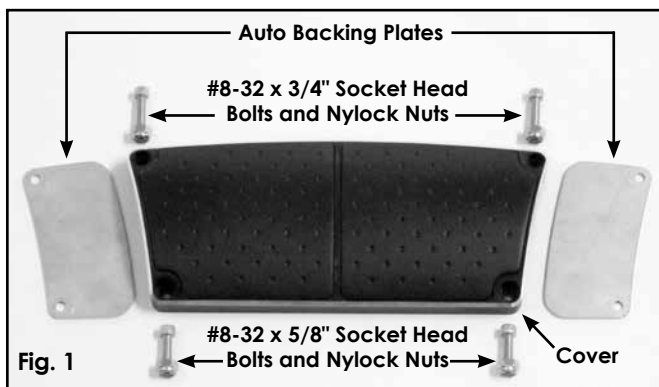

Fig. 1
Refer to Figs. 1, 2, and 3 for the component names.
**Step 3, Automatic Transmission Brake Pedal (Fig. 1):** Place one of the Auto Backing Plates on each side of the back of the pedal, with the #8-32 socket head bolts protruding through the back side of the backing plates. Secure the backing plates with the #8-32 nylock nuts.